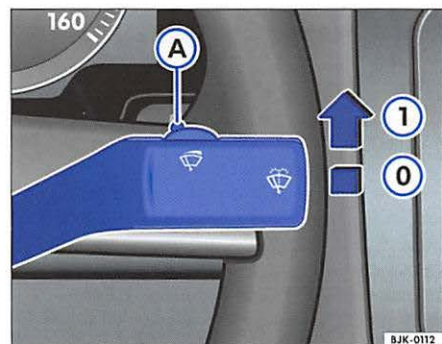

Fig. 34 Windshield wiper and windshield washing lever adjusting the rain sensor settings
- Move the wiper lever up to position ⇒ fig. 34 ①.
- The sensitivity of the rain sensor can be adjusted using lever (A). Turn the lever to the left decrease sensitivity. Turn the lever to the right to increase sensitivity.
- Move the wiper lever down to position ⇒ fig. 34 ②.